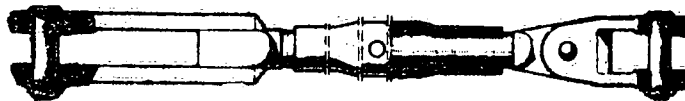

Fig. 4
*Lower link arm.* It has round articulations at both ends (Fig. 4).
*Lifting rod.* Its length can be varied (Fig. 4) in order to make the hitching of the implement easier or to level it crosswise (perpendicular to the direction of movement).